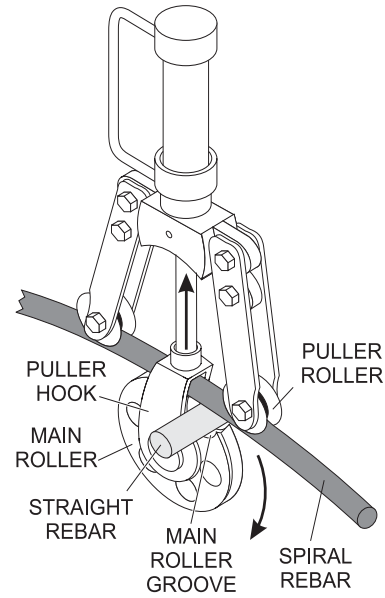

Figure 16. JB7135 Rebar Placement — Rebar Bending
2. Send the end of the spiral rebar through the gap between the puller hook and main roller. Rotate the main roller so that the main roller groove is in the 1 o'clock position. Secure the straight rebar in the main roller groove. Align the puller rollers on the spiral rebar (Figure 16).